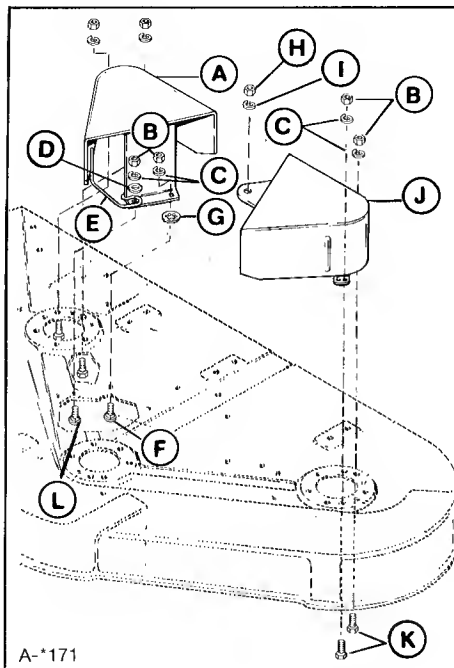

Figure 25. Arbor Covers
3. **42" Mower Only.** Remove the right arbor cover by removing two carriage bolts in front and two capscrews in rear (see figure 25). Remove the nut (H) and